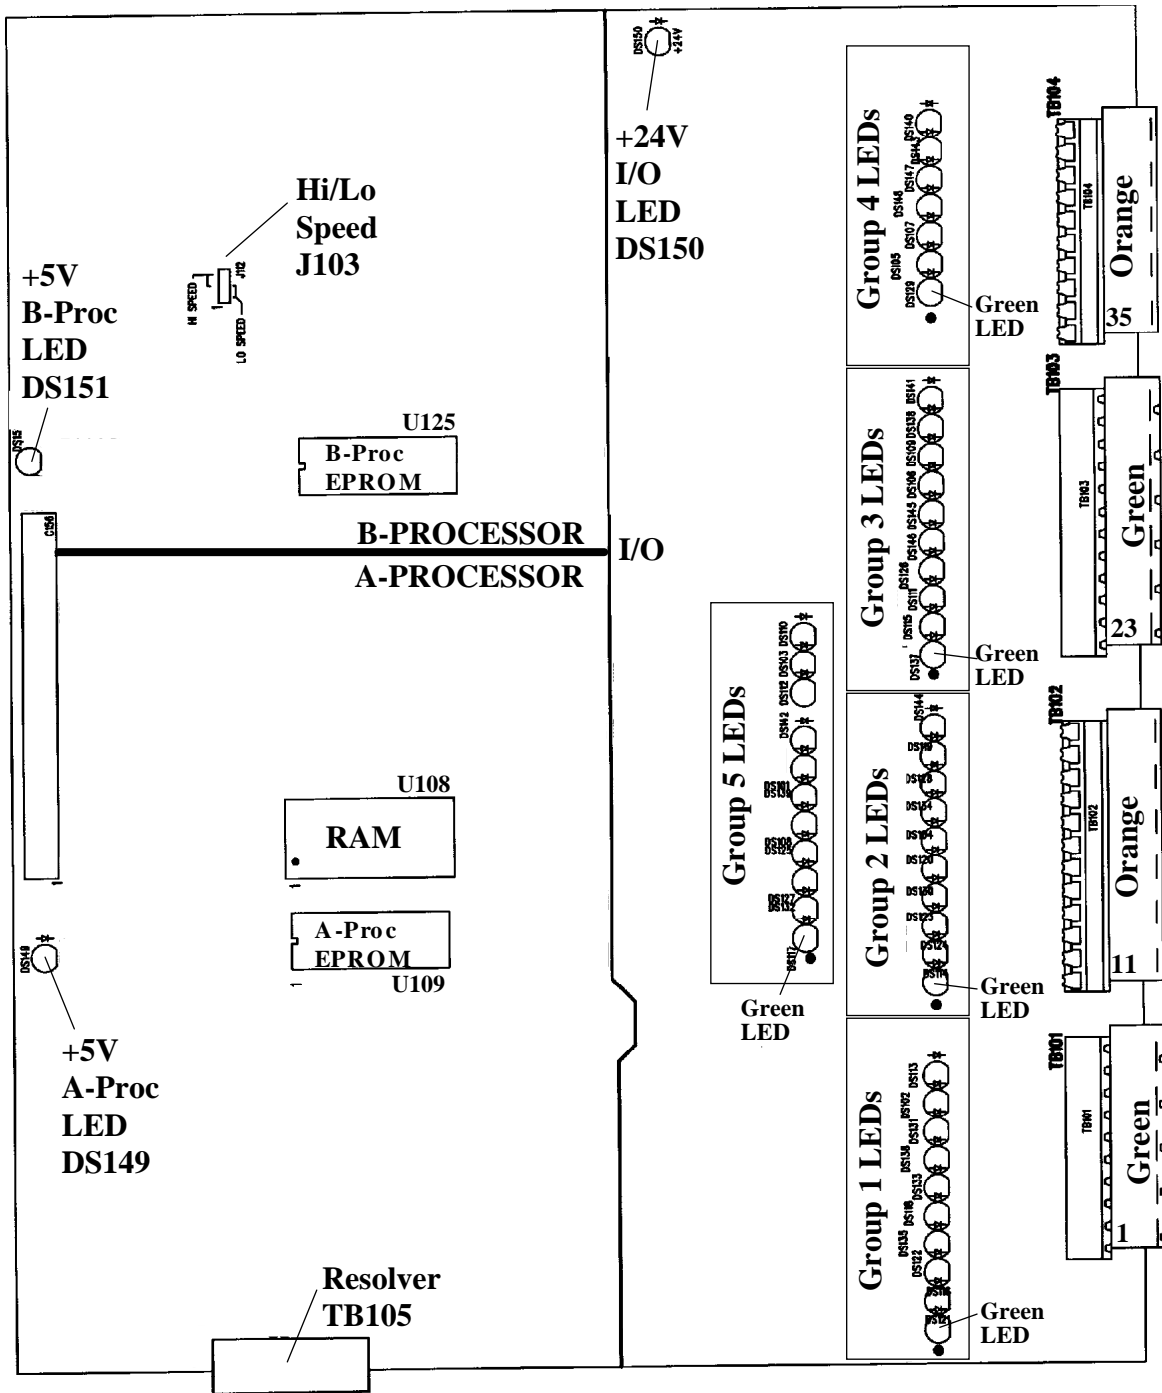

Figure 2-6a. WPC processor board layout, important components shown and labeled
1. Refer to Figure 2-6a for the WPC components board layout. Also refer to Figure 1 for the resolver wiring schematic.
3. Refer to Figure 2-6a for the location of the resolver connector. Measure the resolver wires to fit and cut the wires. (If you also ran the overrun limit switch cable through, do not cut these wires until the overrun limit switch is installed).
- Figure 2-6a for the location of the resolver connector;